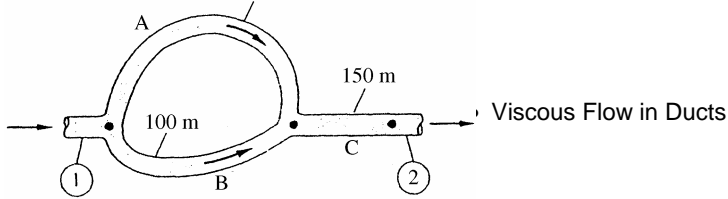

Fig. P6.116
6.116 For the series-parallel system of Fig. P6.116, all pipes are 8-cm-diameter asphalted cast iron. If the total pressure drop $p_1 - p_2 = 750 \text{ kPa}$, find the resulting flow rate $Q \text{ m}^3/\text{h}$ for water at 20°C . Neglect minor losses.